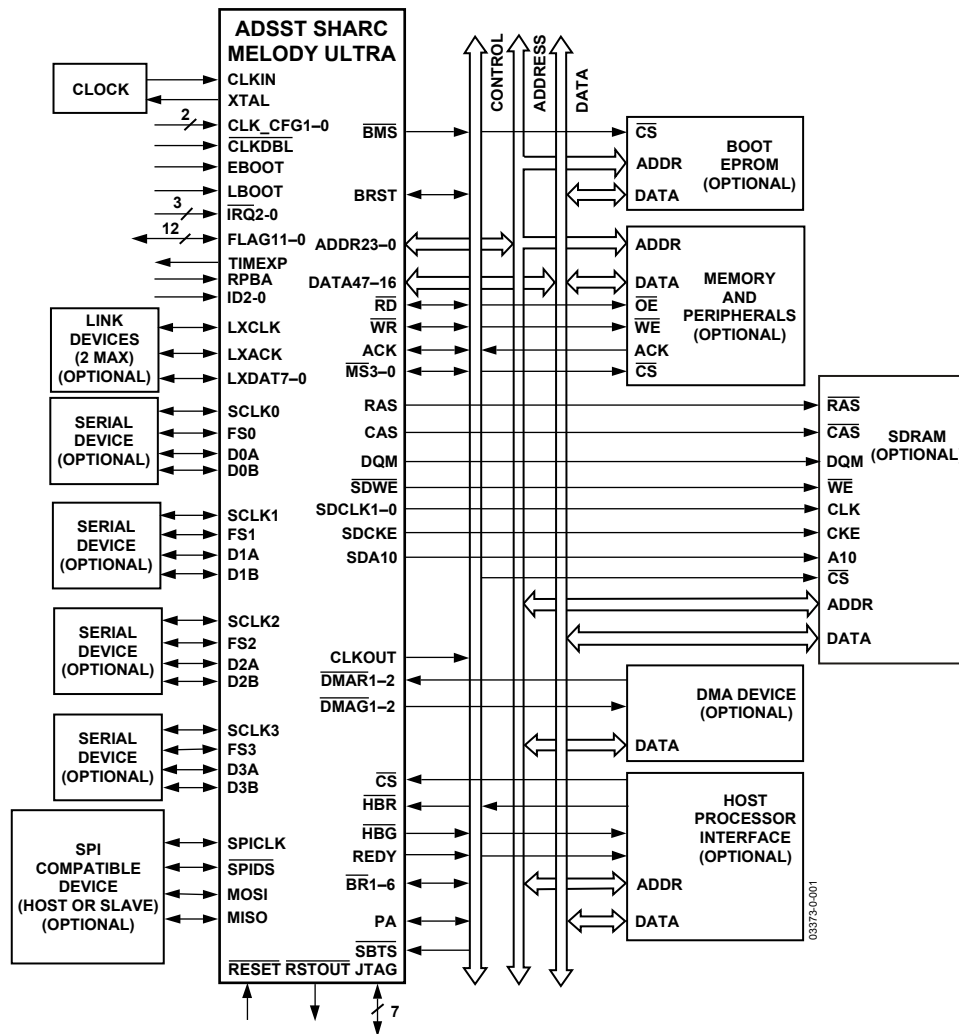
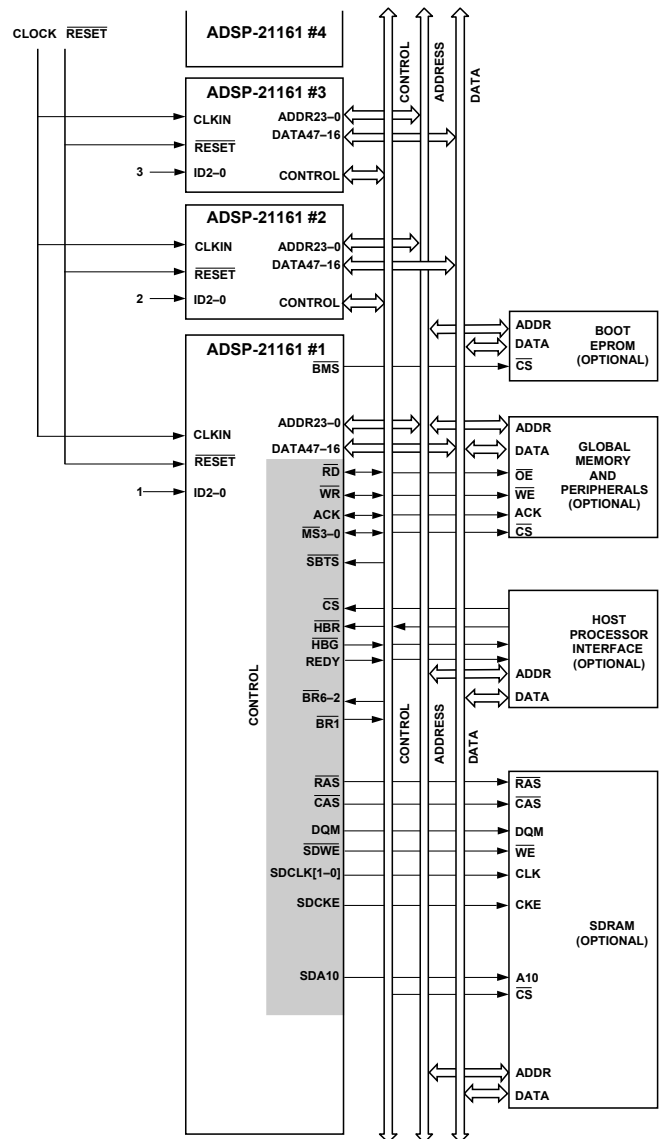

Figure 4. System Block Diagram
Figure 7. Shared Memory Multiprocessing System
Figure 4 shows a typical single-processor system. A multiprocessing system appears in Figure 7.
The SHARC Melody Ultra features an enhanced Harvard architecture in which the data memory (DM) bus transfers data and the program memory (PM) bus transfers both instructions and data (see Figure 4). With the SHARC Melody Ultra's separate program and data memory buses and on-chip instruction cache, the processor can simultaneously fetch four operands (two over each data bus) and an instruction (from the cache), all within a single cycle.